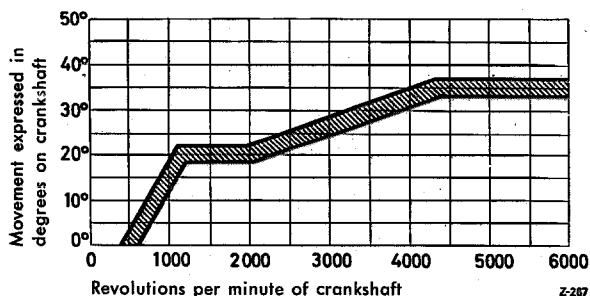

Fig. 01—3/29
7. The distributor is in proper working order if the ignition setting alters steadily and without jerking in accordance with the thickness of the tolerance feeler band used and in relation to the appropriate engine speed or alternatively the vacuum obtained at this speed (Fig. 01—3/29) and (Fig. 01—3/30).
Note: The governor control movement curve begins at 0° (see Fig. 01—3/29).